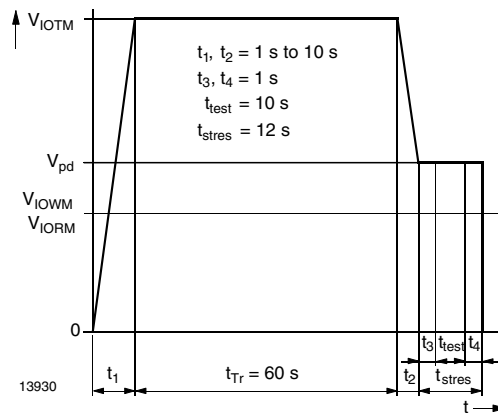

Fig. 2 - Test Pulse Diagram for Sample Test according to DIN EN 60747-5-2 (VDE 0884); IEC60747-5-5
- According to DIN EN 60747-5-2 (VDE 0884) (see figure 2). This optocoupler is suitable for safe electrical isolation only within the safety ratings. Compliance with the safety ratings shall be ensured by means of suitable protective circuits.